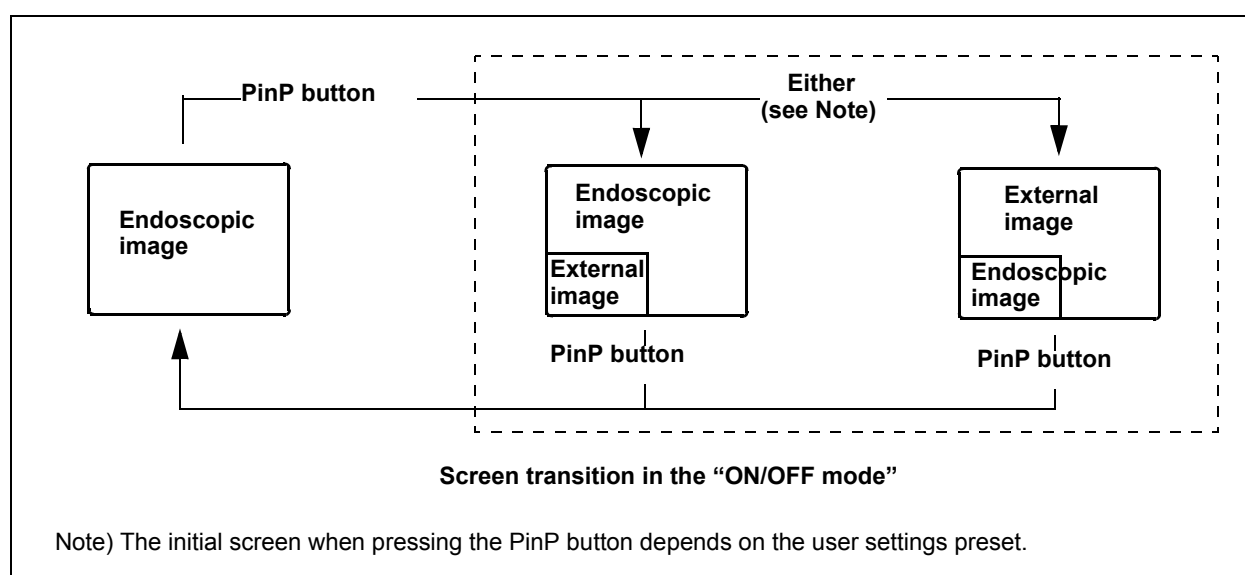
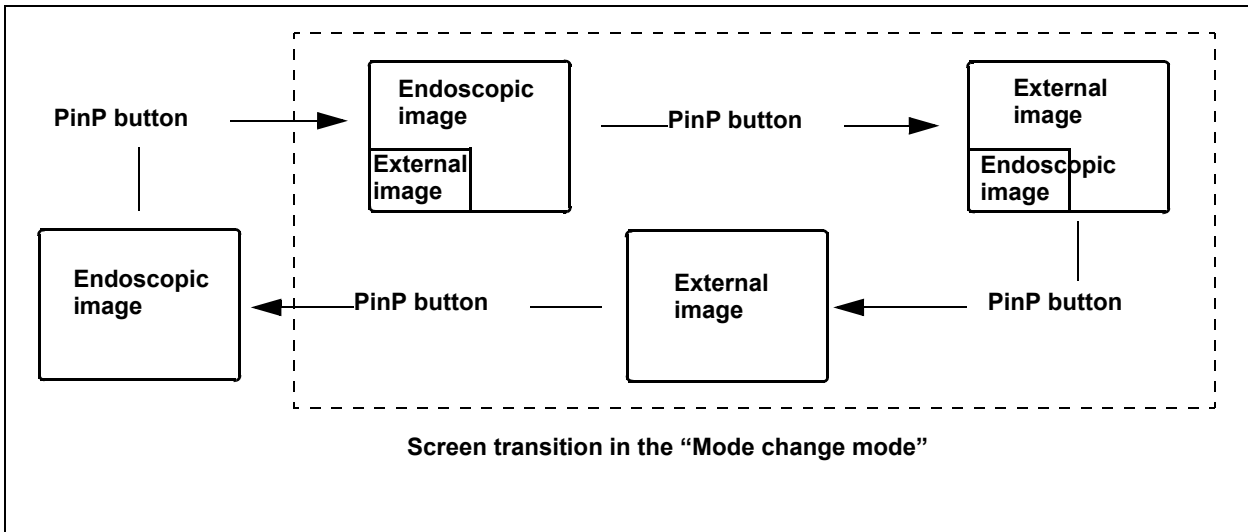

Figure 5.4
Figure 5.5
4. Press the “PinP” button to change the display. The transitions of the displays are different according to the settings in “User preset” menu (see Figure 5.4 and Figure 5.5) (refer to “PinP (picture in picture) function” on page 245 for the setting method).